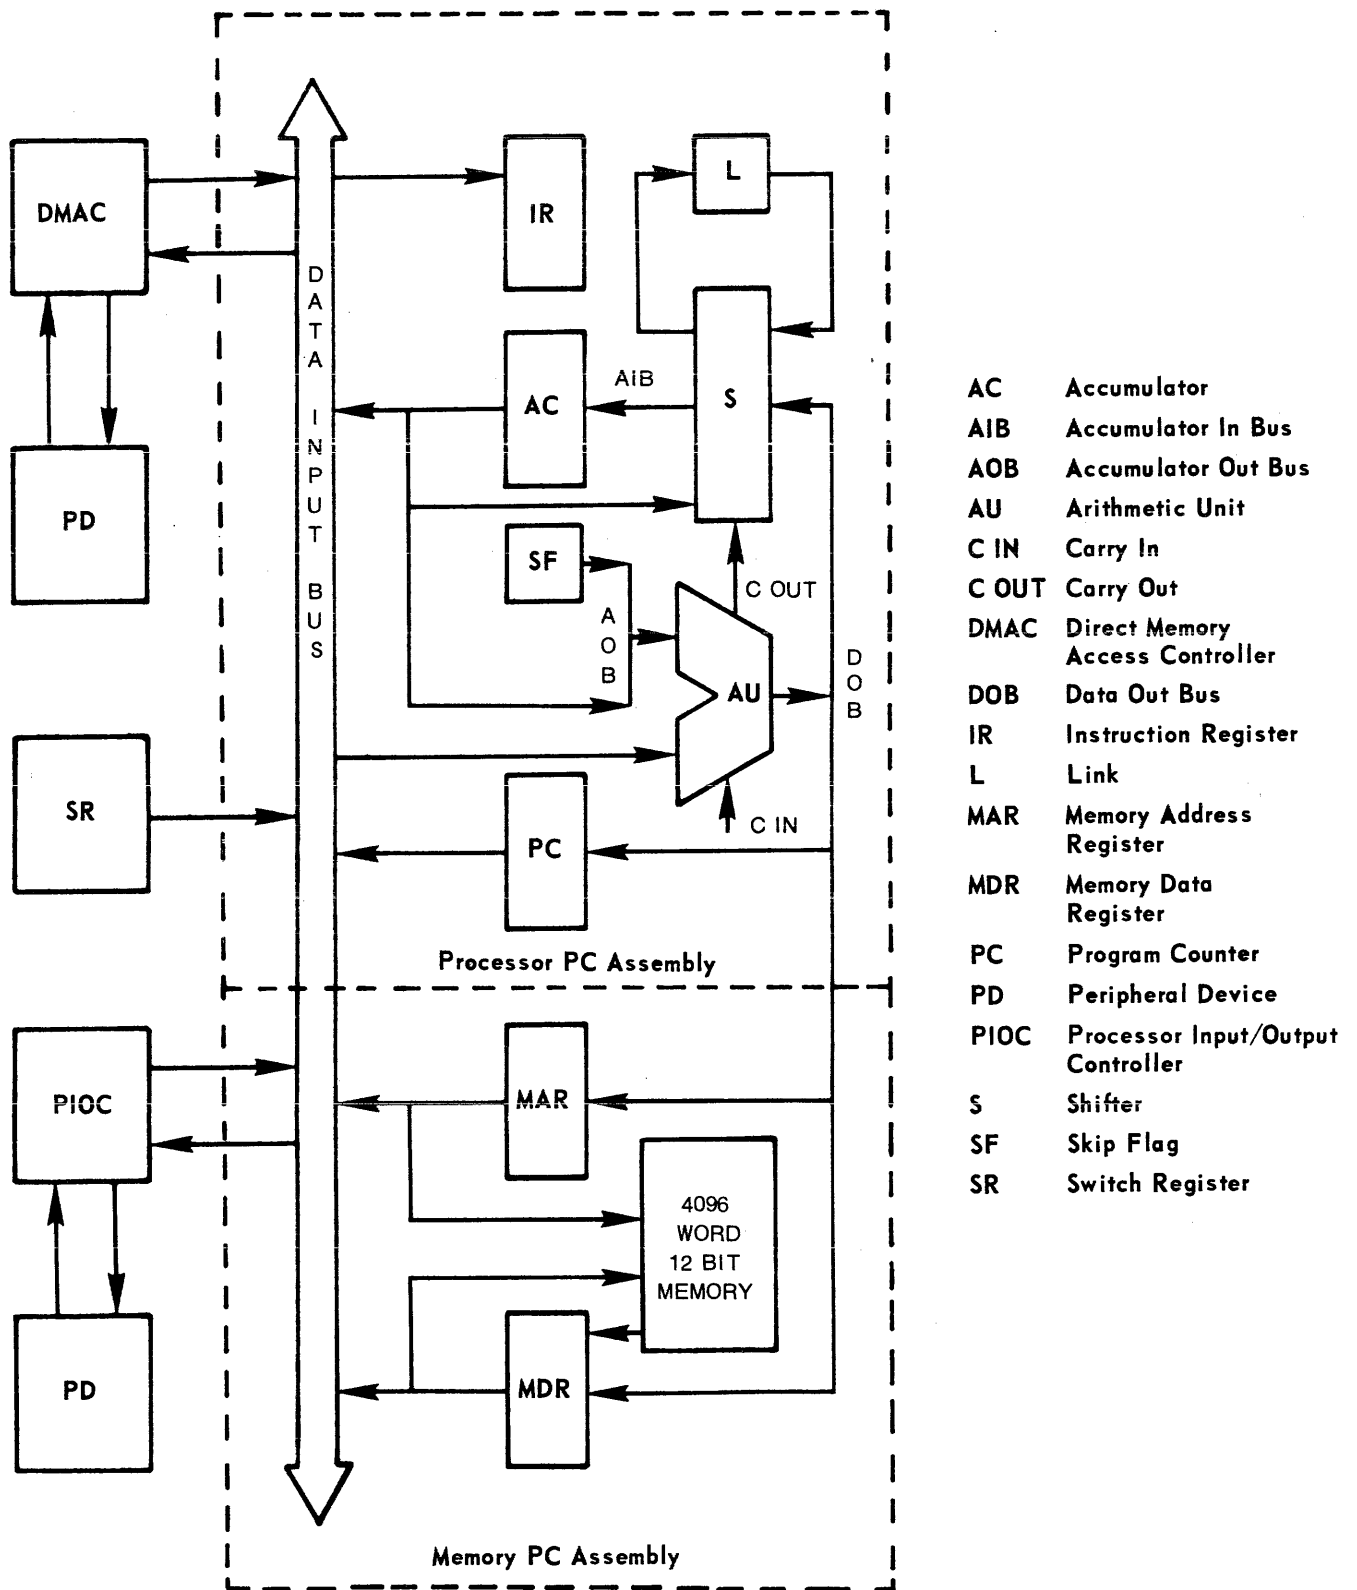

Figure 2-1
The FABRI-TEK MP12 features a single bus structure; the processor, memory, and input-output channels all share a common Data Input Bus (DIB). The Data Input Bus is the mechanism whereby address information and data are transferred between the switch register (SR) and the processor, between the processor and the memory, between the memory and the input-output interface, and between the processor and the input-output interface. The system block diagram, Figure 2-1, illustrates the single bus organization of the FABRI-TEK MP12.